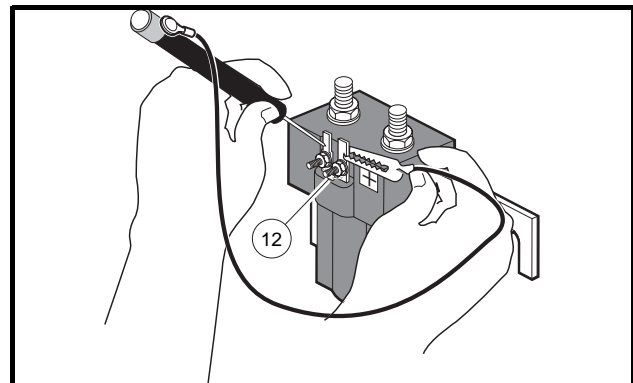

Figure 11-9 Diode Test – Probe Position Two
- 3.2. Reverse the positions of the probe and the alligator clip (**Figure 11-9, Page 11-18**). The tester should not illuminate. If any other reading is obtained, the diode must be replaced. If the diode is functioning correctly, proceed to step 5.